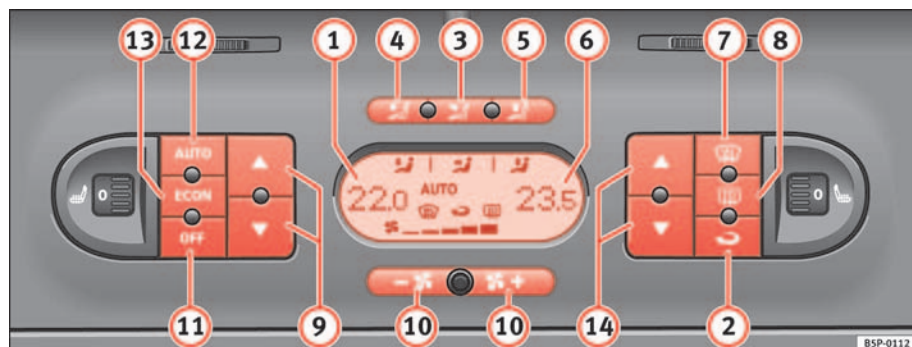

Fig. 125 On the dash panel: 2C Climatronic controls ▶
- Press the temperature control buttons ⇒ page 152, fig. 125 9 or 14 in order to adjust the temperature on the left hand side or the right hand side respectively.
- Press the button  ⇒ page 152, fig. 125. “AUTO” is shown on the display. ▶